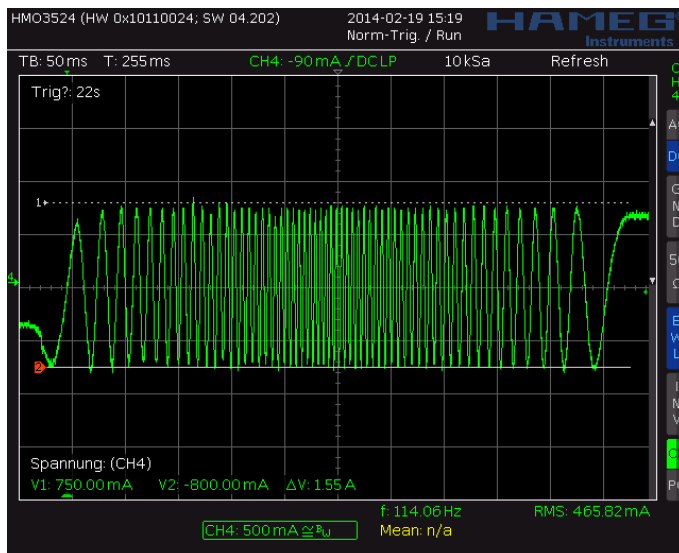
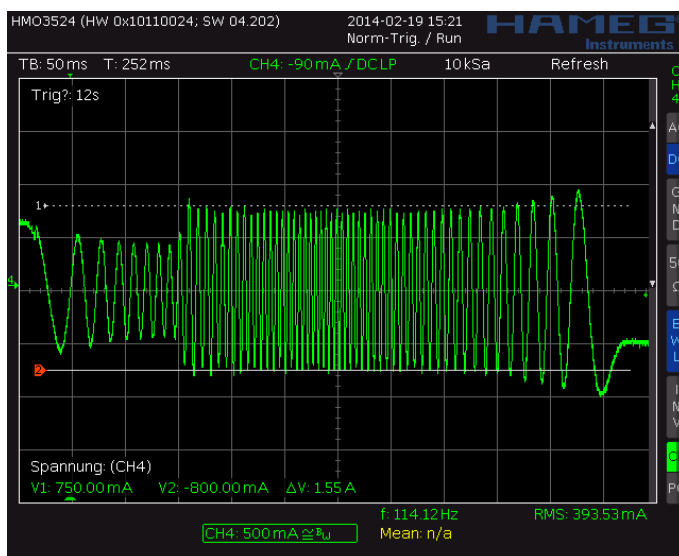
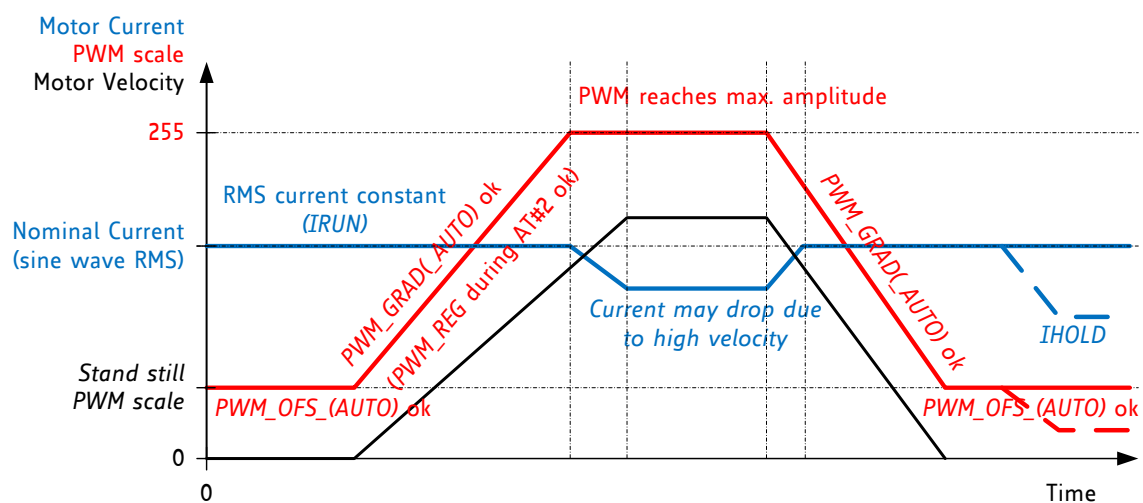

Figure 7.3 Scope shot: good setting for PWM_REG
Figure 7.4 Scope shot: too small setting for PWM_REG during AT#2
Figure 7.5 Successfully determined PWM_GRAD(AUTO) and PWM_OFS(AUTO)
In stealthChop voltage PWM mode, the autoscoping function (*pwm_autoscale* = 1, *pwm_auto_grad* = 1) regulates the motor current to the desired current setting. Automatic scaling is used as part of the automatic tuning process (AT), and for subsequent tracking of changes within the motor parameters. The driver measures the motor current during the chopper on time and uses a proportional regulator to regulate *PWM_SCALE_AUTO* in order match the motor current to the target current. *PWM_REG* is the proportionality coefficient for this regulator. Basically, the proportionality coefficient should be as small as possible in order to get a stable and soft regulation behavior, but it must be large enough to allow the driver to quickly react to changes caused by variation of the motor target current (e.g. change of *VREF*). During initial tuning step AT#2, *PWM_REG* also compensates for the change of motor velocity. Therefore, a high acceleration during AT#2 will require a higher setting of *PWM_REG*. With careful selection of homing velocity and acceleration, a minimum setting of the regulation gradient often is sufficient (*PWM_REG*=1). *PWM_REG* setting should be optimized for the fastest required acceleration and deceleration ramp (compare Figure 7.3 and Figure 7.4). The quality of the setting *PWM_REG* in phase AT#2 and the finished automatic tuning procedure (or non-automatic settings for *PWM_OFS* and *PWM_GRAD*) can be examined when monitoring motor current during an acceleration phase Figure 7.5.